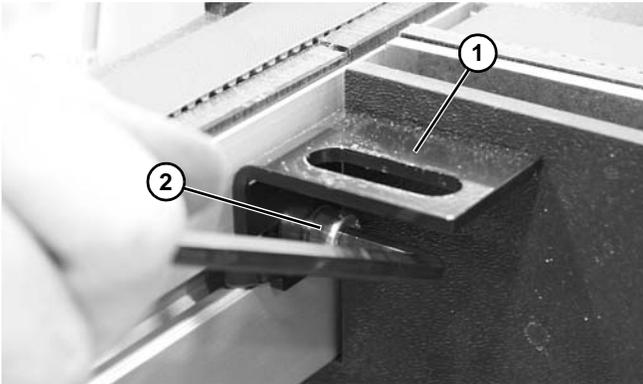
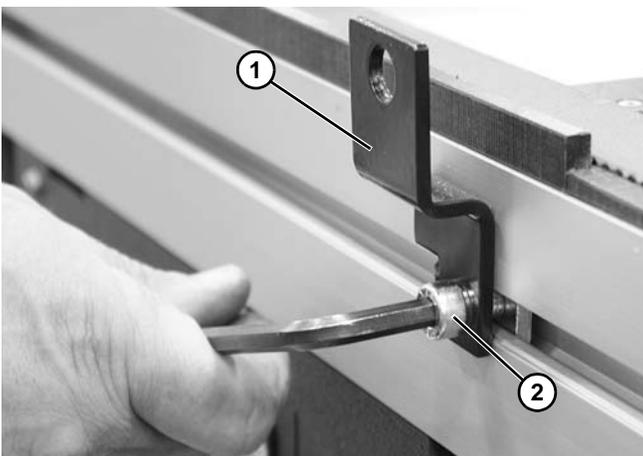

Figure 9
Figure 10
2. Install bottom mount bracket (**Figure 9, item 1**) and/or side mount bracket (**Figure 10, item 1**) with socket head screw (**Figure 9, item 2**) or (**Figure 10, item 2**).